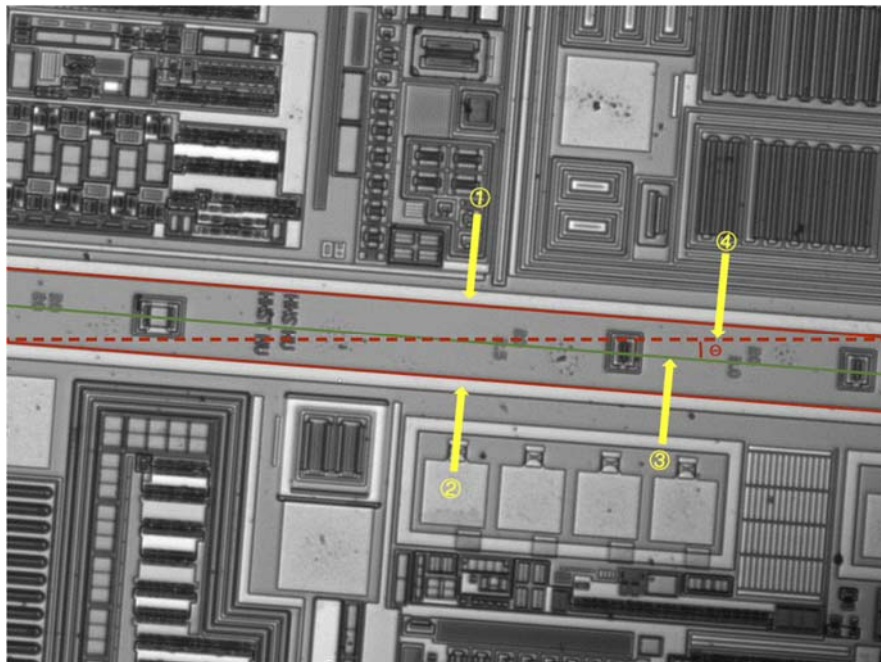

Figure P3. The example of wafer sawing line detection
Wafer sawing line detection is an important task, which involves the detection and estimation of the following steps, as show in Figure P3:
- (1) Upper edge of the cutting line
- (2) Lower edge of the cutting line
- (3) The center line of 1 and 2 (a.k.a. sawing line, the green line in Figure P3)
- (4) The angle θ of sawing line (angle is obtained clockwise with the right horizontal line as the positive direction; note that the red dashed line is the horizontal line)